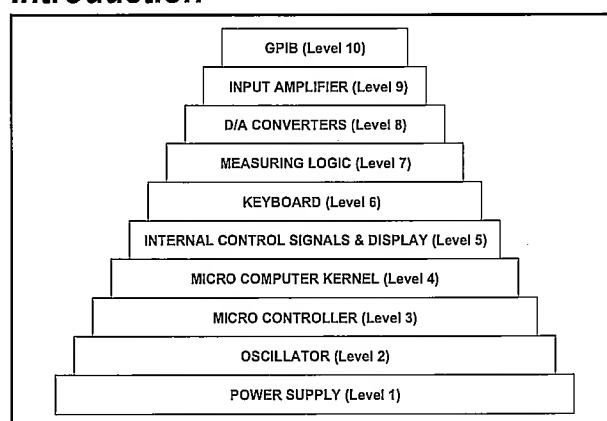

Figure 5-4 Functional levels.
The troubleshooting strategy in PM 6681, is an integrated part of the overall service strategy for the instrument. This instrument is hierarchically designed in different levels, see Figure 5-4, and troubleshooting can be performed in any design level if the lower levels are OK. It is therefore important to disconnect all options in the beginning of the troubleshooting procedure.
The levels mentioned in the troubleshooting tree refer to the functional levels in Figure 5-4. For example Level 3 are equal to Microcontroller (3). (Do the microcontroller check later in this Chapter.)